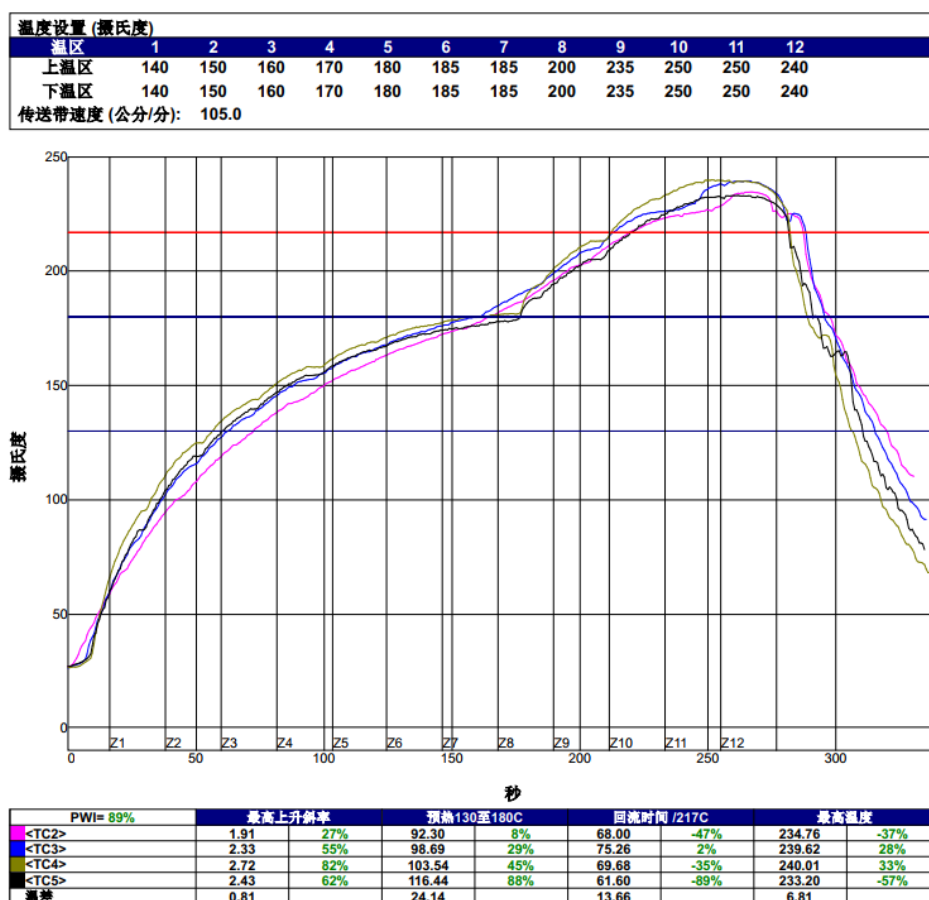

Figure 6.3 MAX2001 Module Solder Profile
It is recommended to use manual welding for UWB module welding to avoid internal device movement caused by improper temperature control and secondary reflow soldering, which may affect product performance. If reflow soldering production is necessary, the recommended maximum reflow soldering temperature is 235-246 Celsius degree, and the maximum temperature cannot exceed 246 Celsius degree. The furnace temperature curve (lead-free SMT flow welding) and related parameters of the MAX2001 module during manufacturing are shown in Figure 6.3. The production suggestions are as follows, please read carefully:
- 1) It is recommended that the temperature of Reflow soldering should not exceed the temperature as shown in Fig. 6.3. It is recommended to reduce the overall curve by about 5 degrees. In summer, the temperature can be reduced appropriately;